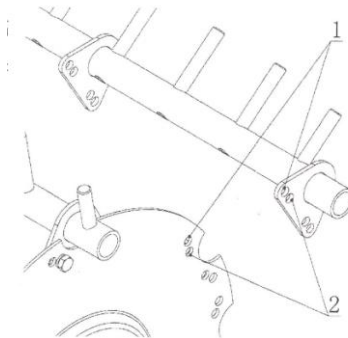

Figure 8 Adjustment of the concave plate gap
V. Adjustment of the concave plate gap, see Figure 8